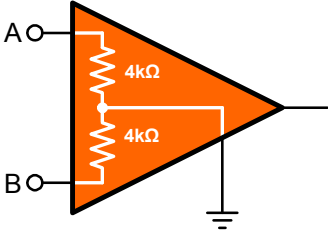

Figure 2. RS-422 Receiver Input Resistance
- Figure 2. RS-422 Receiver Input Resistance 2
The receiver common-mode input resistance, measured between each bus terminal and ground, is 4kΩ (Figure 2).